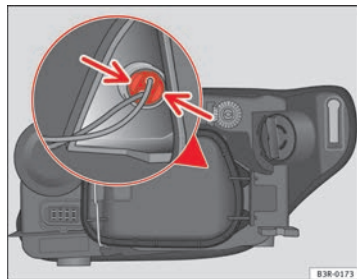

Fig. 213 Side light bulb (outside of vehicle)
- Gently press on the bulb holder tabs ⇒ **fig. 213** and pull the cover upwards (it can also be removed by pulling on the bulb holder wires).